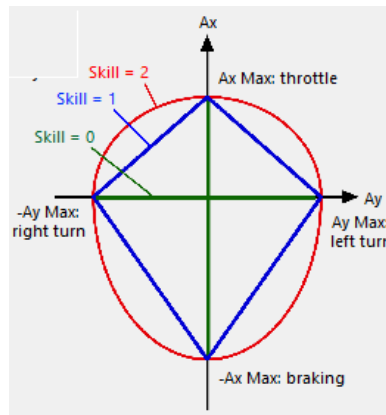

Figure 30. Three skill levels used to combine lateral and longitudinal acceleration.
6. The acceptable combination of lateral and longitudinal acceleration is determined one of three ways, based on the parameter `OPT_SC_SKILL`, which may be given a value of 0, 1, or 2 (Figure 30).